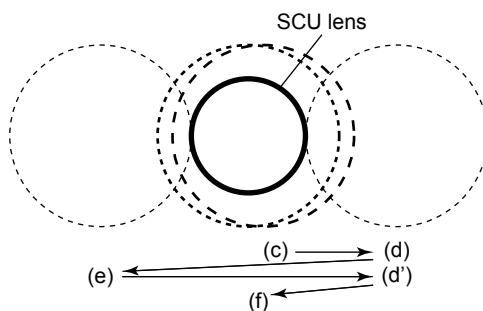

**Figure 3.19 Final vertical adjustment conceptual illustration**
- i. Adjust the horizontal angle adjustment nuts on the LU side so that the transmission is nearly zero (so that the laser beam barely misses the SCU lens) (Figure 3.19(d)).
- ii. Adjust the horizontal angle adjustment nuts on the LU side in the direction opposite to the direction of i until the transmission is nearly zero (until that the laser beam barely misses the SCU lens) (Figure 3.19(e)). During this process, turn the angle adjustment nuts one-eighth of a turn at a time and record how many one-eighth turns the nuts were turned.
- iii. Again, adjust the horizontal angle adjustment nuts on the LU side in the direction opposite to the direction of ii until the transmission is nearly zero (until that the laser beam barely misses the SCU lens) (Figure 3.19(d')). During this process, turn the angle adjustment nuts one-eighth of a turn at a time and record how many one-eighth turns the nuts were turned.
- iv. Check that the number of rotations of the angle adjustment nuts are nearly the same for ii and iii. Then, return the horizontal angle adjustment nuts half the number of rotations, and securely fasten the nuts (Figure 3.19(f)).